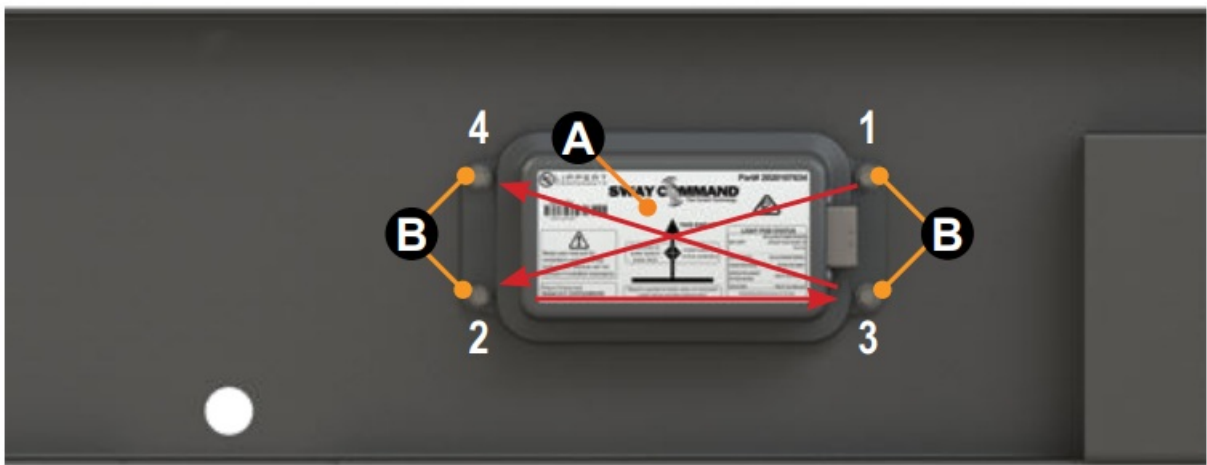

Fig.2
6. Using an impact driver, securely fasten all screws using a crisscross pattern (Fig.2) until screw heads are nearly flush against the lock washers.
7. Torque screws 10 – 12 Nm in the crisscross pattern shown in figure (Fig.2).
9. Make sure controller orientation is correct (Fig.2).
screws in accordance with steps 5 – 7 and figure 2 of the Standard Chassis Mounting procedure.